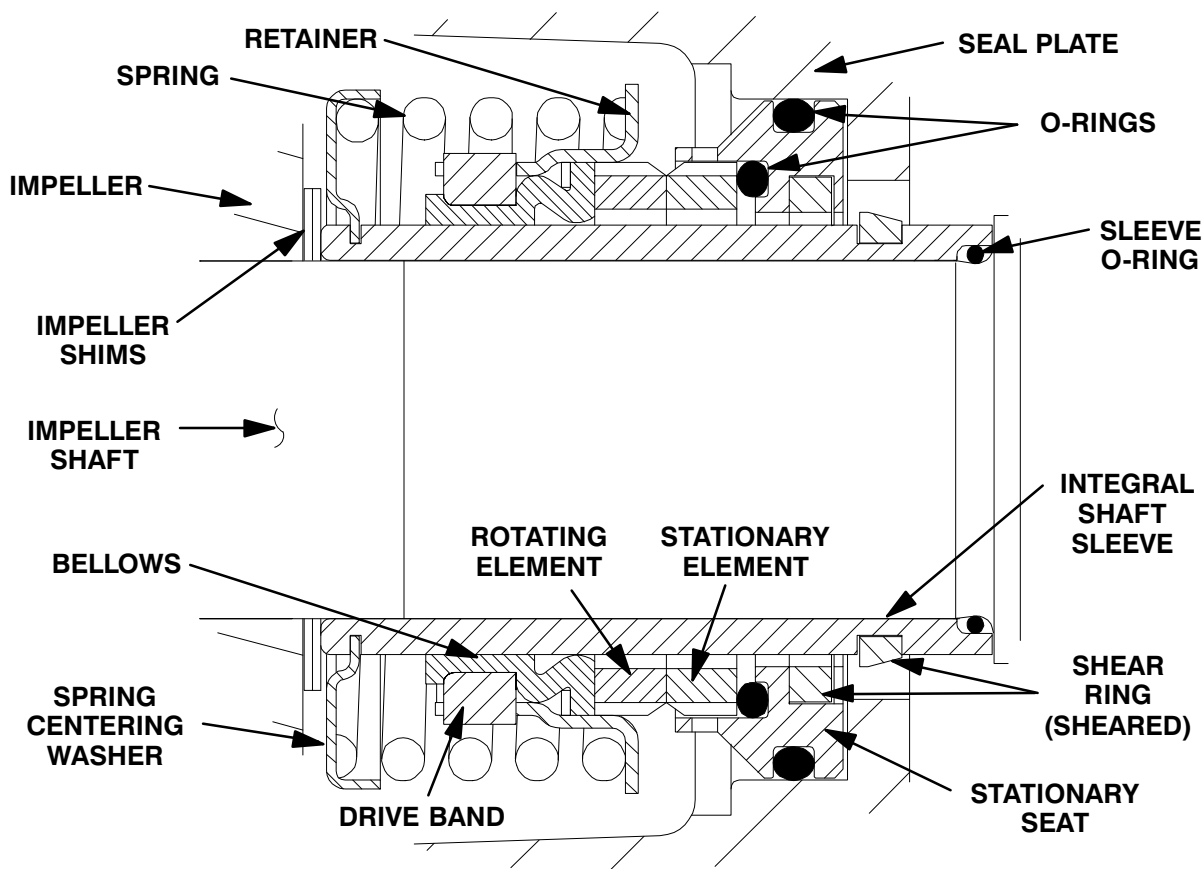

Figure 9. Seal Assembly
To ease installation of the seal, lubricate the shaft sleeve O-ring (14) and the external stationary seat O-ring with a very **small** amount of "P-80[®] Emulsion" or water. See Figure 9 for seal part identification.